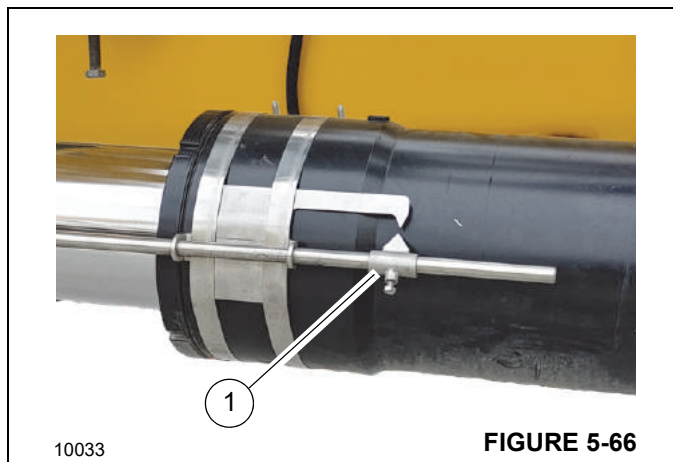

FIGURE 5-66
5. If erecting an optional hydraulic boom extension, make sure the angle indicator (1, Figure 5-66) is aligned. If the arrows are not aligned, adjust the boom extension offset as needed to align the arrows. For more information, see *Offsetting the (Optional) Hydraulic Boom Extension*, page 5-57.